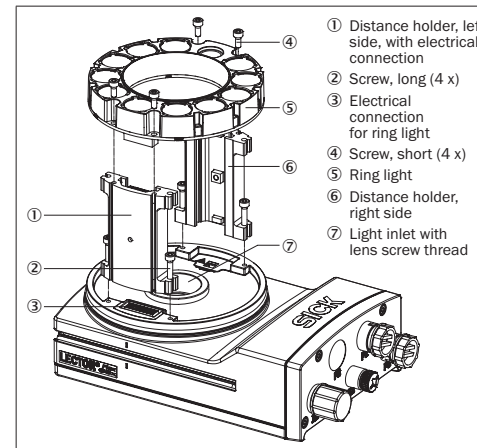

Fig. 3: Mounting the integrable illumination unit on the camera housing
2. Remove the protective cap from the round light inlet (Fig. 3 ⑦).
- Do not touch the open contacts of the electrical connection (Fig. 3, item ③) for the illumination unit on the camera housing.